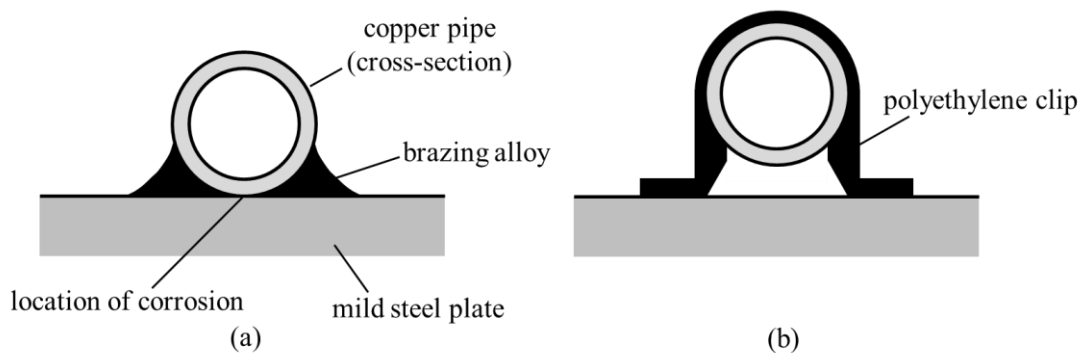

Fig. 3
3 A copper pipe of diameter 30 mm, intended to carry hot water at 80 °C, is brazed to a mild steel plate, as shown in Fig. 3(a). After some time in use, cracks are found in the brazed joint, and corrosion of the steel is observed at the point of contact with the pipe.
- (c) The brazed joint is replaced with an injection moulded polyethylene clip, shown in Fig. 3(b), attached to the plate with steel screws (not shown).